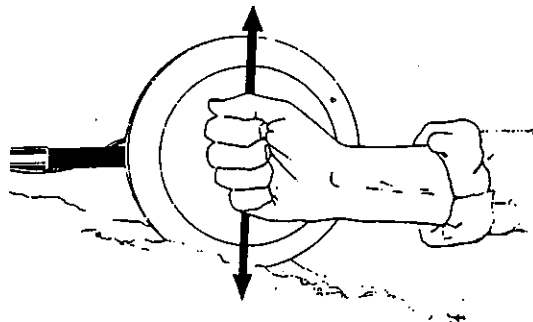

Figure 14 - Locating a target
2. Lay the coil on its side near the hole. Pick up a handful of soil from the pile and pass it across the coil (as shown in figure 14). If there is no signal then place the soil in a second pile away from the first and grab another handful from the pile. Continue this process until the object is in your hand. Sift through the soil in your hand until you find the object.